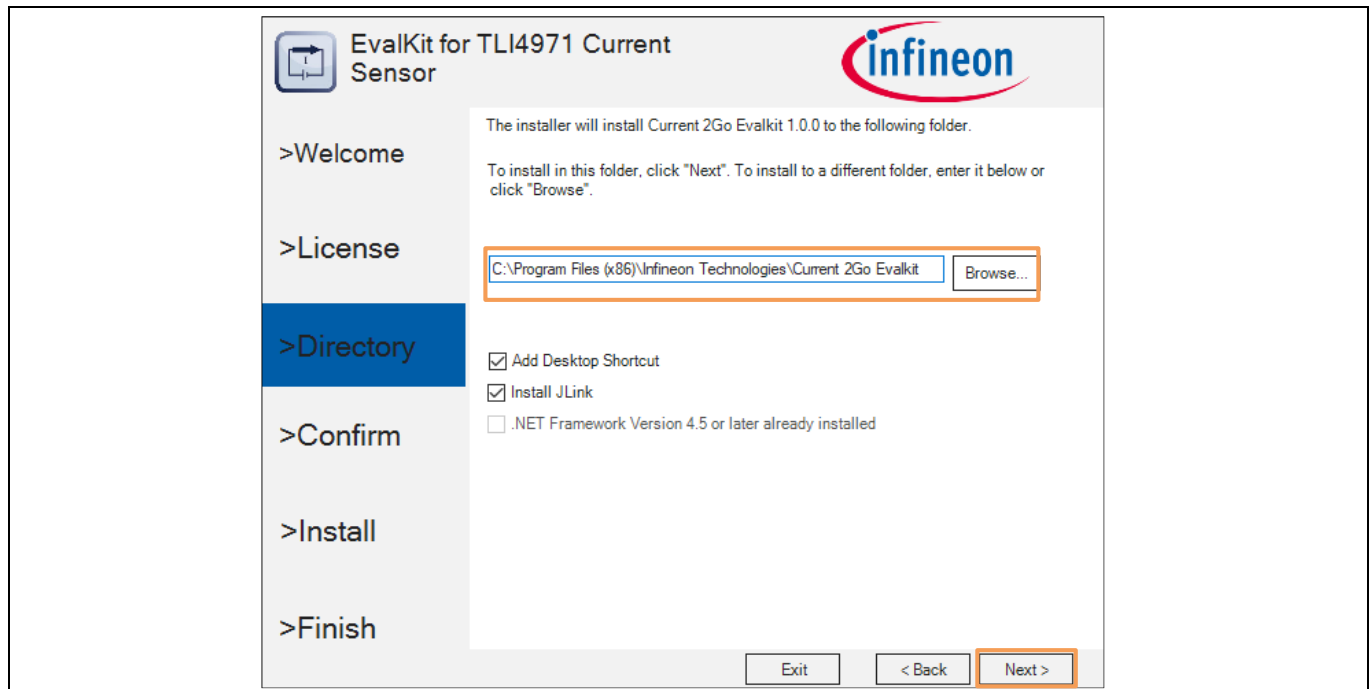

Figure 24 EvalKit Installer 1.0.2 – Select the installation folder
- Then the installer will prompt for the installation folder. Accept the default one or use another directory by selecting the “**Browse**” button as shown in orange color box of Figure 24. Also, select the check boxes of “Add Desktop Shortcut” and “Install JLink”. Click “**Next**” button to continue with the installation